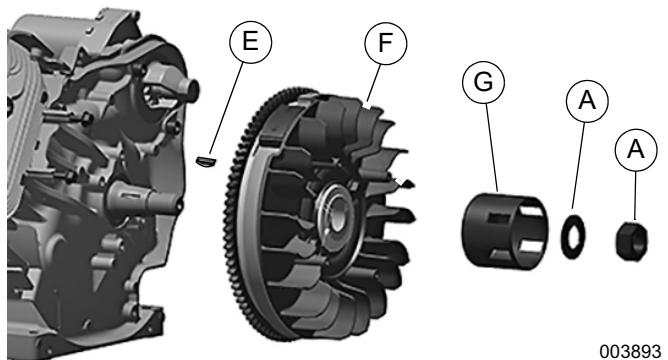

Figure 14-56. Attach Flywheel To Crankshaft (Portable)
2. See Figure 14-56. Verify crankshaft end is clean and free of burrs and debris. Install woodruff key (E) in crankshaft slot.